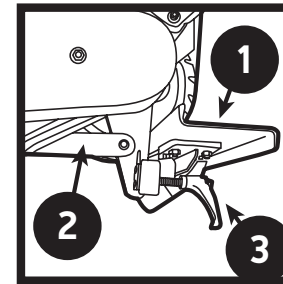

Figure 7
1. Adjust the work support and work support arm to the desired position with the Attachment Locking Lever (Figure 7). Take care that the gap between the face of the abrasive belt and the work rest is at most 1/8 inch. **WARNING: Be aware that thin section work pieces can pass through this gap if the gap is not properly adjusted. Ejected work parts can cause serious personal injury!**